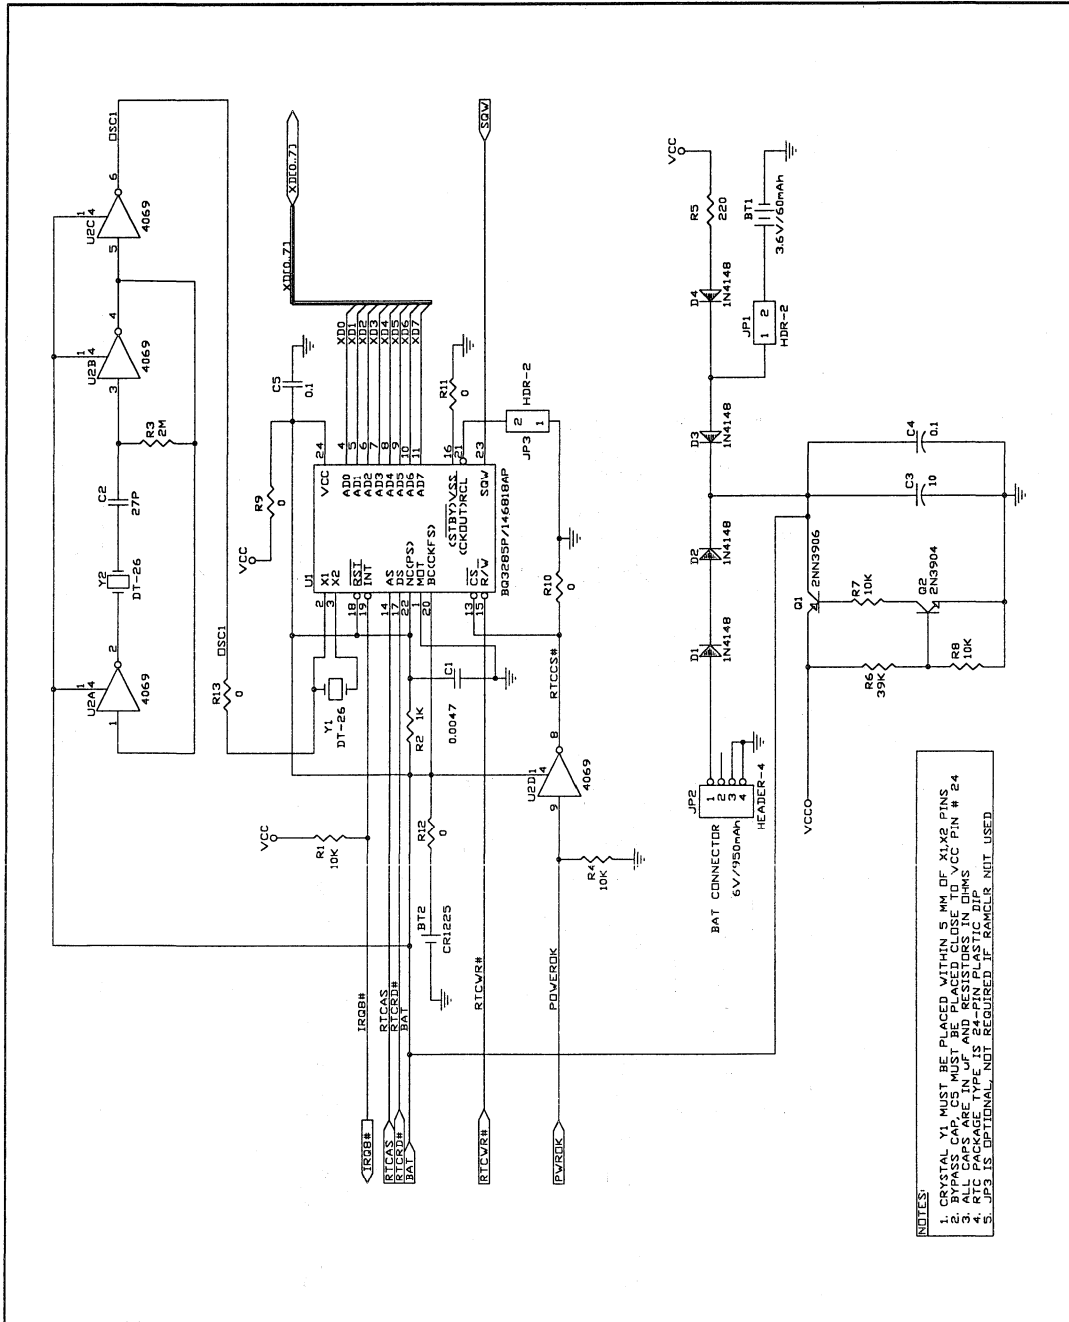

Figure 3. bq3285 or MC146818A ISA (PC/AT) Example
- MC146818A/bq3285 design (Figure 3, Table 4)